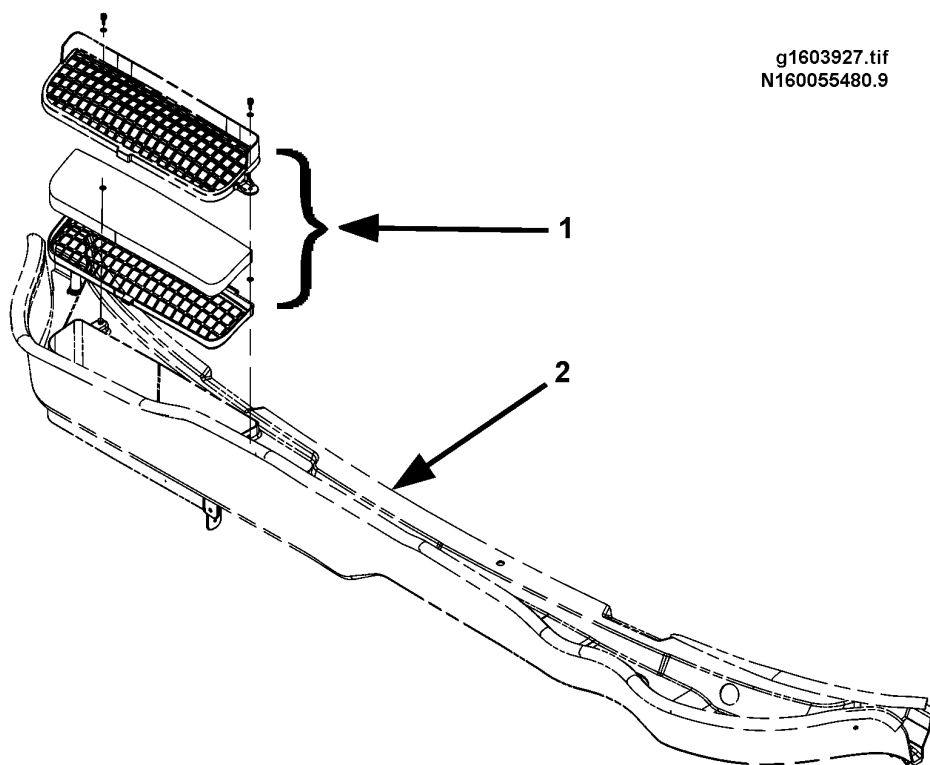

Figure 27 Location of Air Inlet Filter/Grille
1. Remove grille or filter/grille covering HVAC air inlet (1, Figure 27), located in cab cowl tray at base of windshield.
4. Install grille or filter/grille covering HVAC air inlet (1, Figure 27).